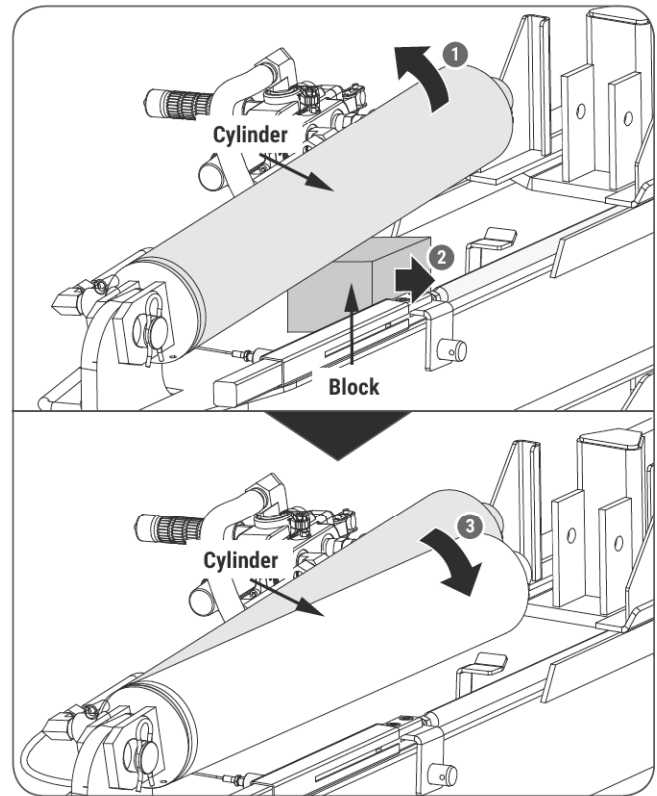

Figure 7a
1. Remove the wooden block under the cylinder. (See **Figure 7a.**)